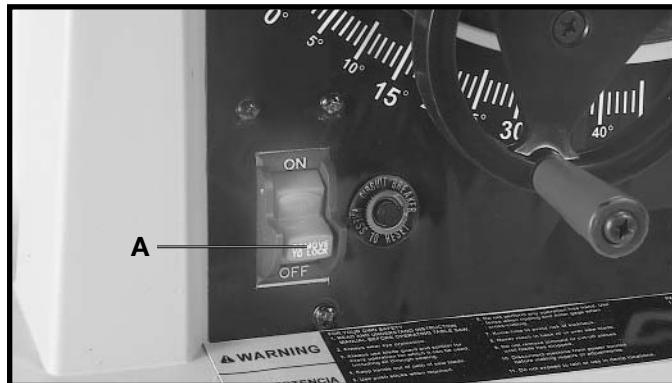

Fig. 31
The on/off switch (A) Fig. 31, is located on the front of the saw cabinet. To turn the saw "ON" move the switch (A) to the "ON" position. To turn the saw "OFF", move the switch (A) to the "OFF" position.